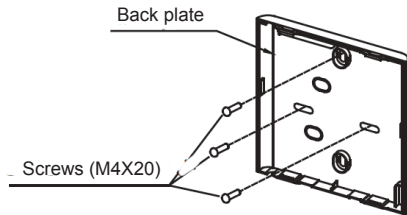

Fig 3-5
- For surface mounting, fasten the back plate on the wall with the 3 screws (M4X20) and plugs. (Fig 3-5)